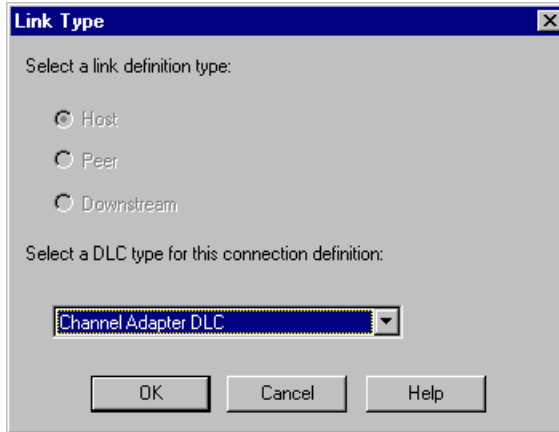
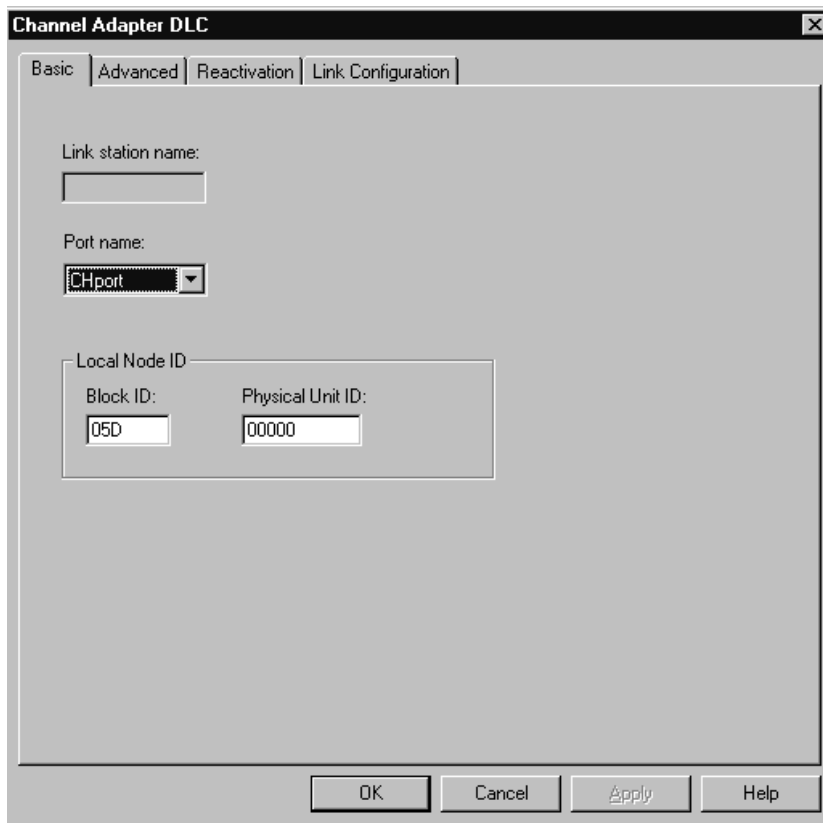

Figure 7-18. Link Type Selection
Figure 7-19. Basic Connection Configuration
If the channel data link control is the only device type defined, configuration will proceed to the Basic screen for the channel adapter (Figure 7-19). If more than one device type has been defined, a Link Type dialog box will display. Select the Channel type and click OK (Figure 7-18).
2. There is nothing that needs to be completed on the Basic host connections screen (Figure 7-19). Both the Channel Adapter and MPC DLCs provide a single port, so port name will be automatically defined. The Local Node ID for the port will display. It will default to the Node Id defined for this Communications Server (defined when configuring the Node). There is no need to change it. Click on the Advanced tab to continue.